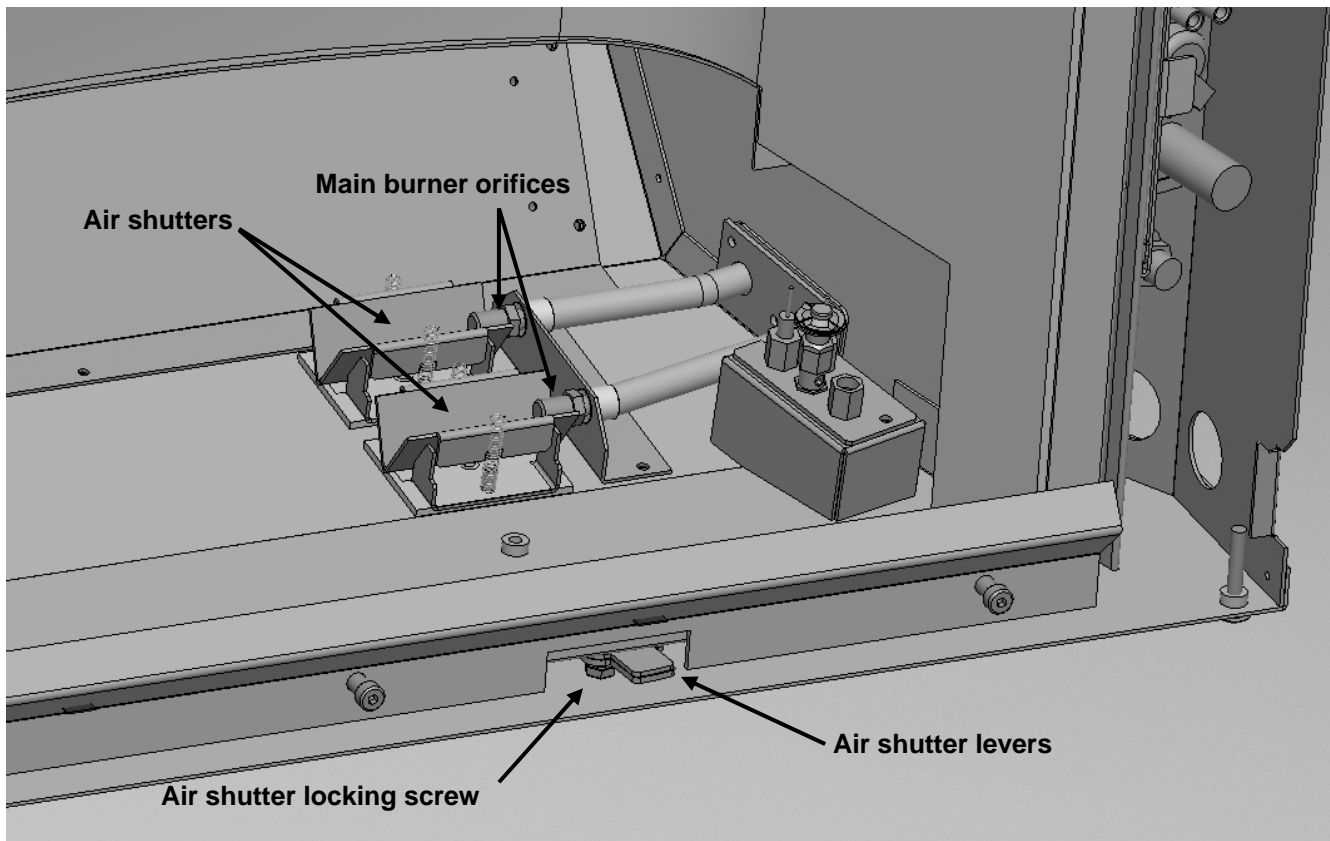

Figure 1
5. Place the two air shutter back in their original cradles. Be sure to carefully align the springs onto the slots on the air shutters. Loosen (but do not remove) the screw that locks the air shutters in place. Adjust the air shutters to a preliminary fully opened position (for LP) by sliding the air shutter levers all the way to the right. Moving the levers to the right will open the air shutters. Moving them to left will close the air shutters. When the shutters are in the desired initial position tighten the locking nuts finger tight. See *Figure 1* below.